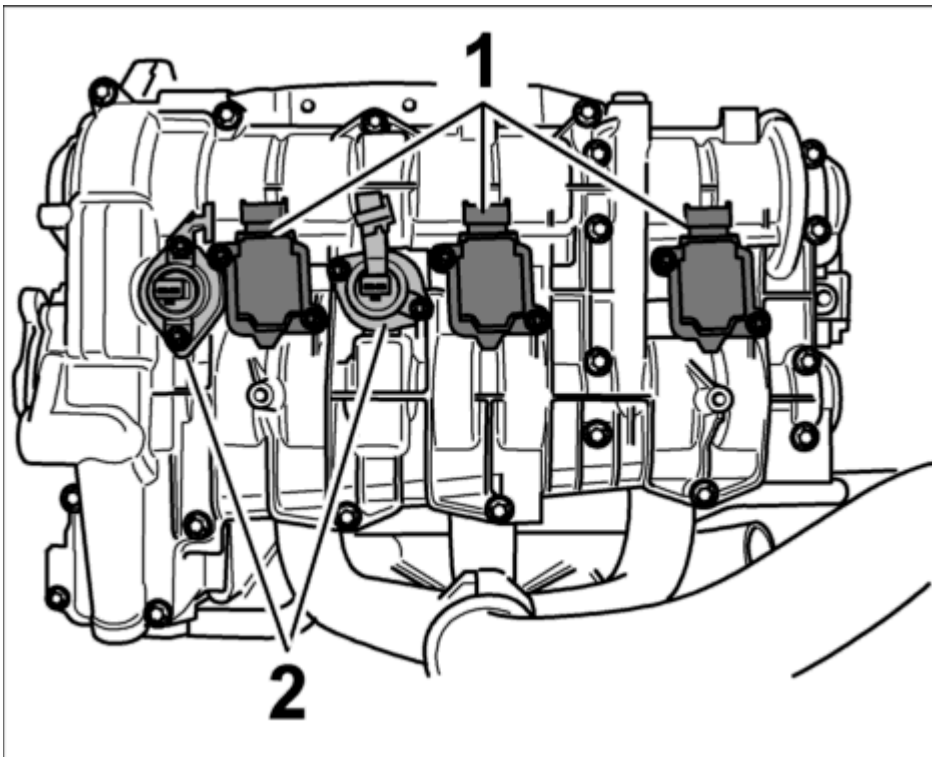

Fig. 198: Hydraulic valves for camshaft adjustment and ignition coils
2. Disconnect and remove cable plugs for ignition coils. Remove ignition coils -1-. To do this, unscrew each of the two Torx screws (M6 x 25) and remove the ignition coils from the spark-plug recess. See **Fig. 198**.
3. Remove support and retainer plates (with integrated seal) for the solenoid hydraulic valves (camshaft adjustment and valve lift control) -2- , --> **153719 Removing and installing solenoid hydraulic valve for camshaft timing - chapter on "Removing"** . If the valves do not have to be replaced, these can remain in the cylinder head (side 1-3 both, side 4-6 camshaft timing only). See **Fig. 198**.